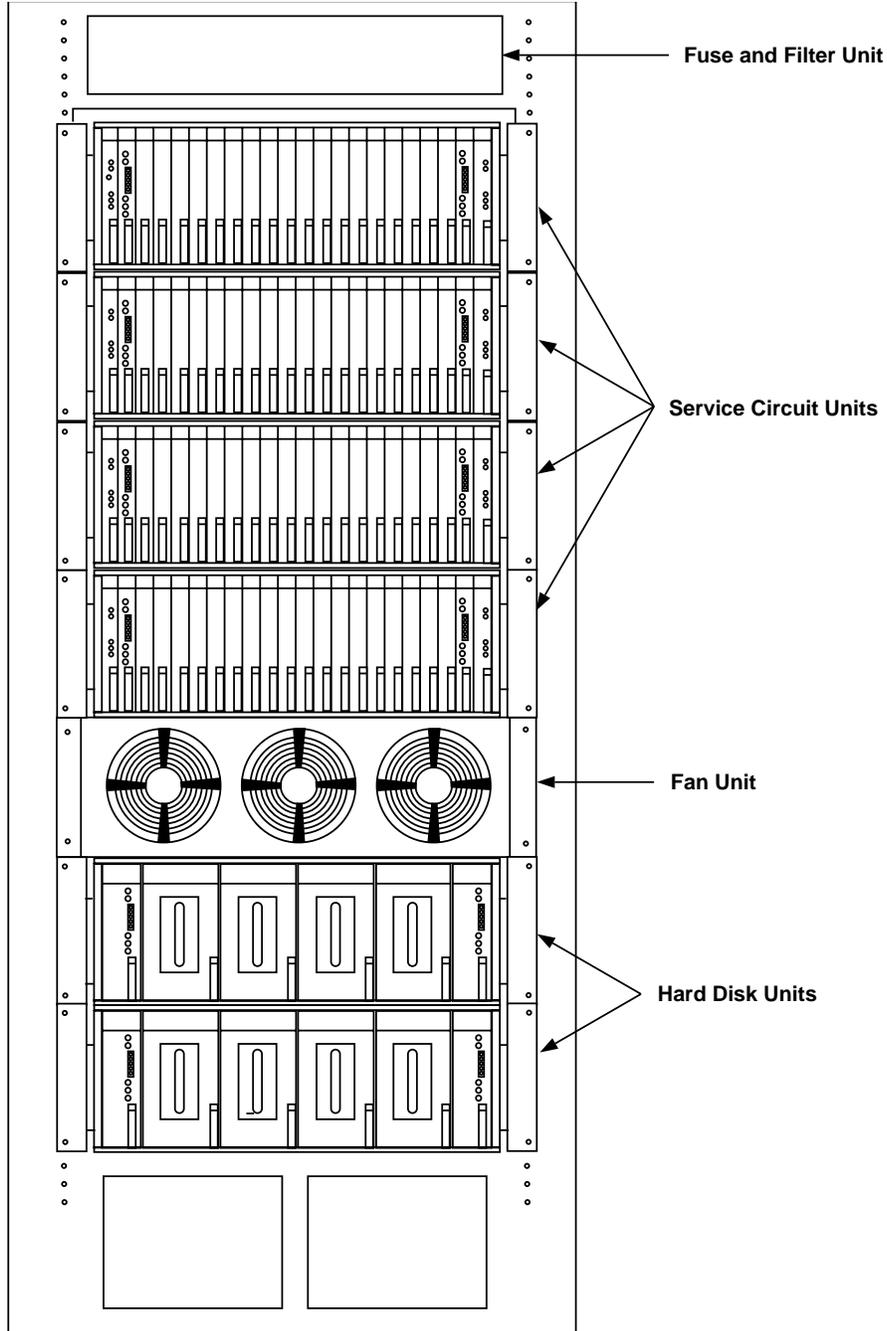

Figure 6. SCU Cabinet (J4A024A-1) — Equipment Identification
- SCU Cabinet (J4A024A-1) — Equipment Identification (Figure 6)